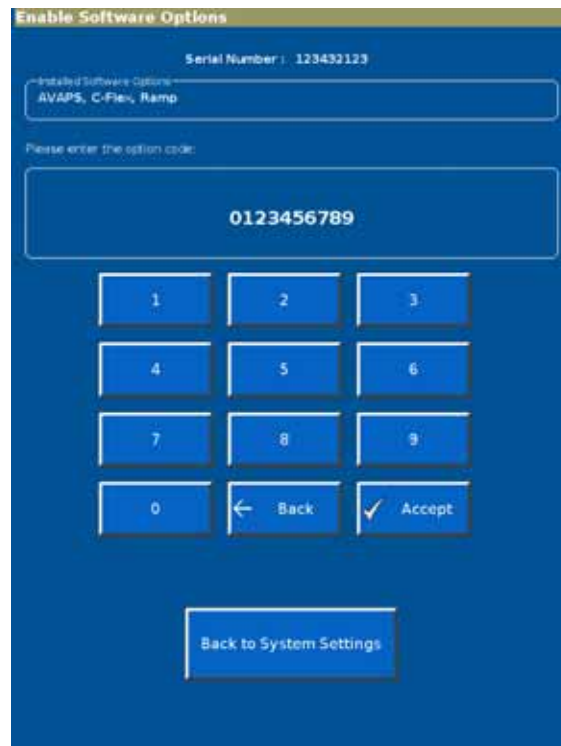

Figure F-8: Enable Software Options screen
1. From the **System Settings** screen, select **Software Options** to display the **Enable Software Options** screen (Figure F-8).